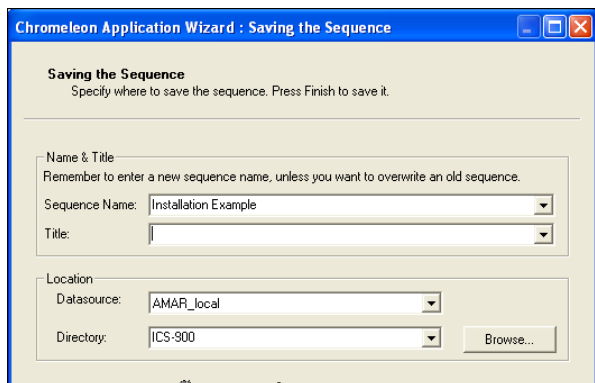

Figure 38. Example Application Wizard: Saving the sequence
1. Enter a **Sequence Name** and specify where to save the sequence (see Figure 38).